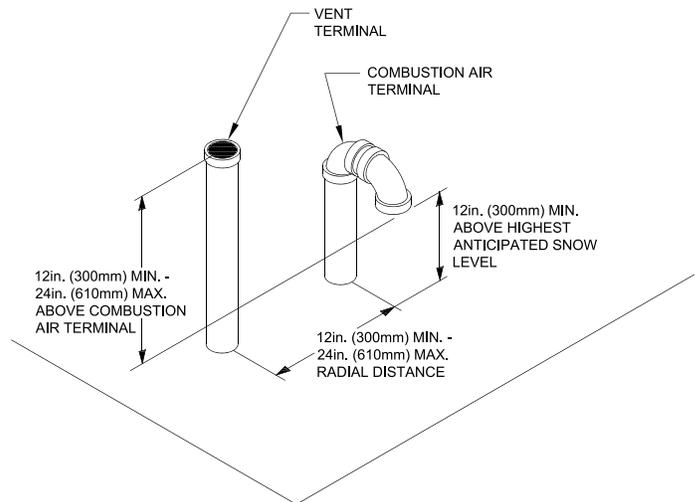
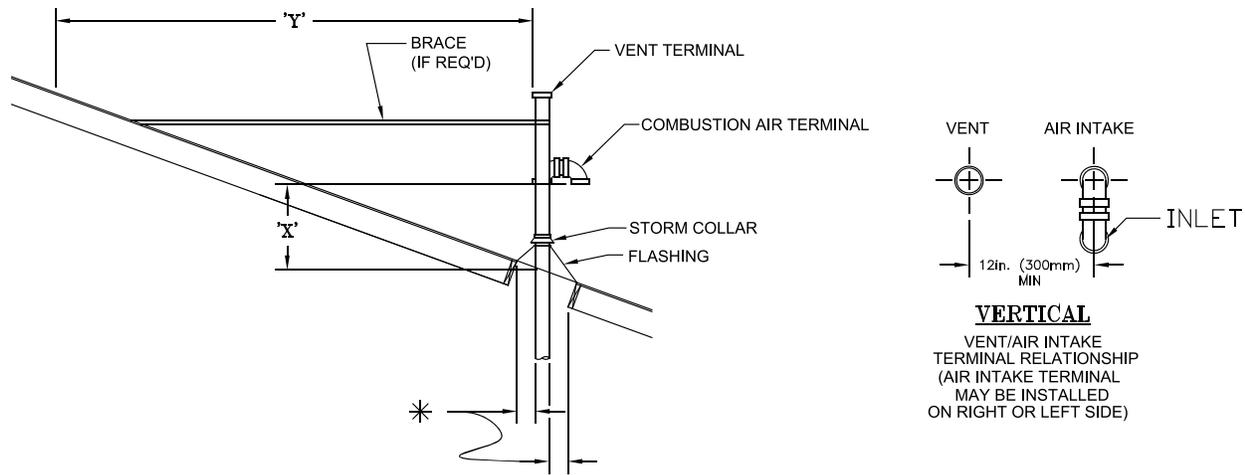

Figure 7: Direct Vent - Vertical Terminations
Figure 8: Direct Vent - Vertical Terminations with Sloped Roof
- ii. Vertical Roof Venting: Use straight coupling on vent and two 90° elbows turned downwards for combustion air as shown in Figure 7 and Figure 8.
- See Table 7C for CPVC/PVC installer provided vent and combustion air components required for optional vertical roof terminals shown in Figure 7.